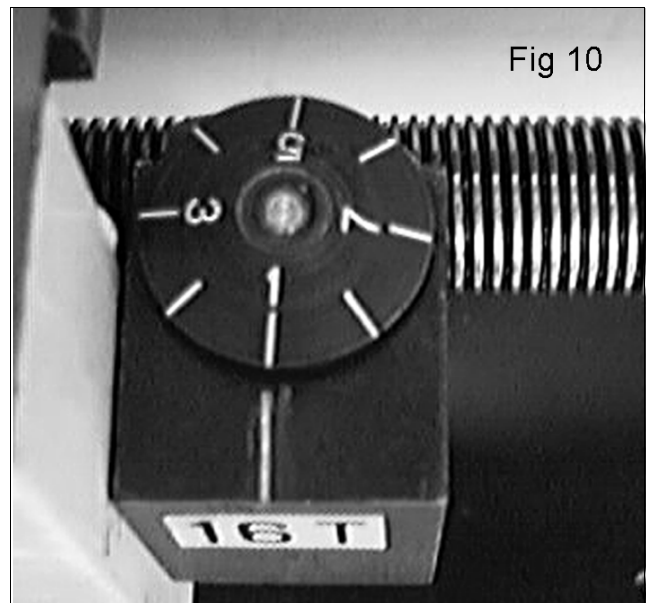

Fig 10
4. Take all necessary precautions previously stated and start the lathe with the automatic feed lever in its disengaged position (UP).
**NOTE:** Mounted on the Apron, adjacent to the Auto Feed Lever is the Thread Dial Indicator, shown in fig. 10. This is permanently connected to the leadscrew and as the leadscrew turns, the 'dial' rotates. Eight radial marks are etched on the dial and these are used to determine the exact position of the leadscrew thread in relation to the saddle.